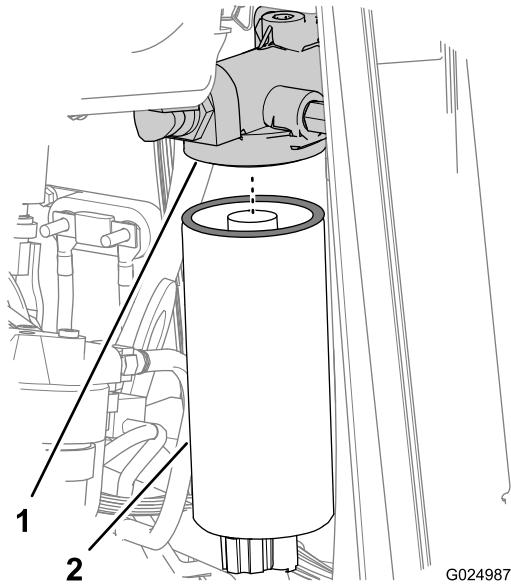
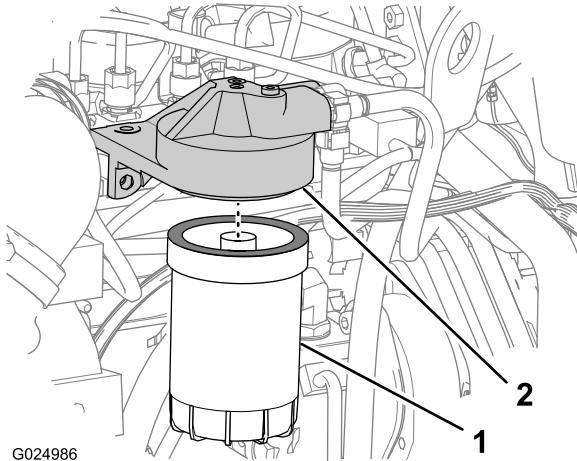

Figure 79
Figure 80
- 7. Loosen and remove the primary fuel filter (Figure 79).
9. Loosen and remove the secondary fuel filter (Figure 80).
1. Wipe clean the sealing surfaces of the filter adapters for the primary- and secondary-fuel filters (Figure 79 and Figure 80).
3. Install the primary-fuel filter onto the filter adapter, and tighten the filter until the gasket contacts the filter head surface (Figure 79).
6. Install the secondary-fuel filter onto the filter adapter, and tighten the filter until the gasket contacts the filter head surface (Figure 80).